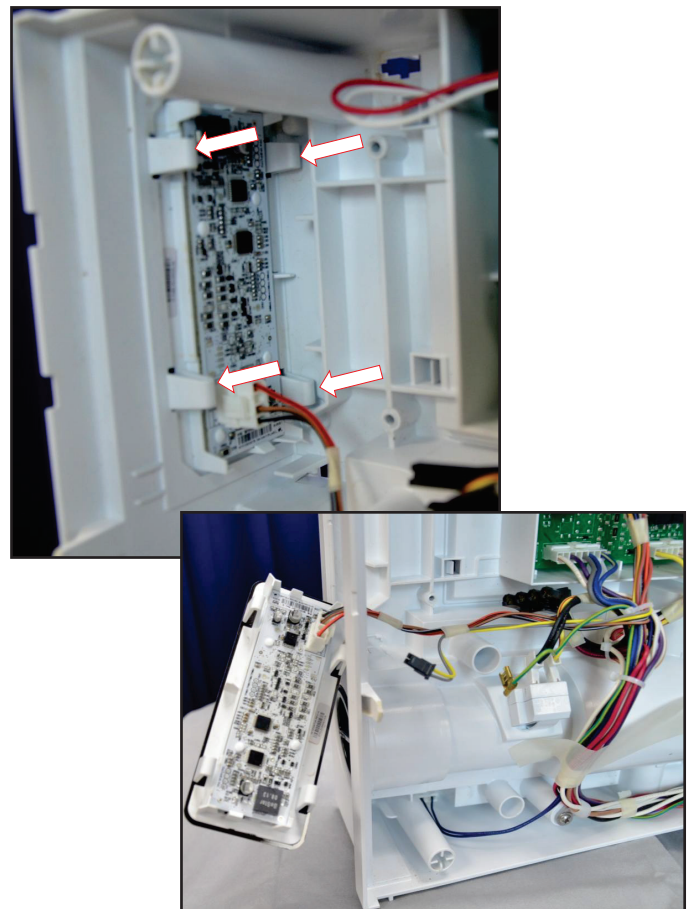

FIGURE 25
8. Release retainers to remove UI board. See *Figure 25*.